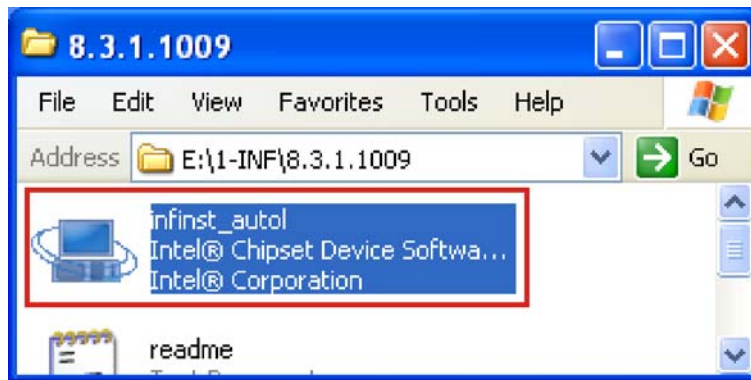

Figure 6-3: Intel® Chipset Driver Directory
Step 2: Double-click "infinst_autol" in **Figure 6-3**.